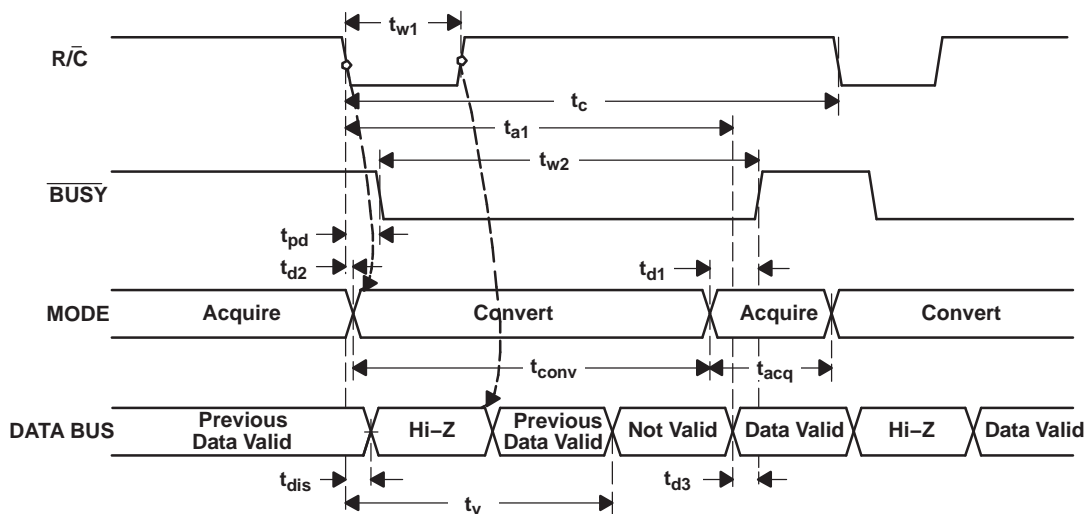
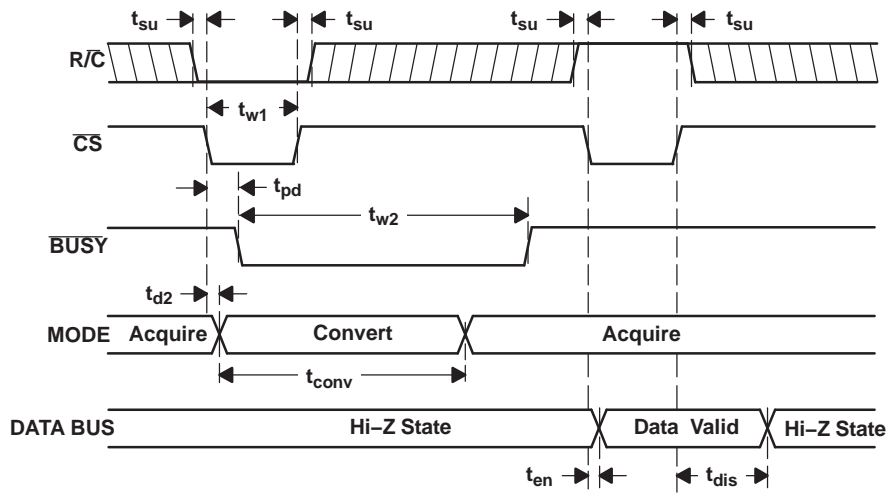
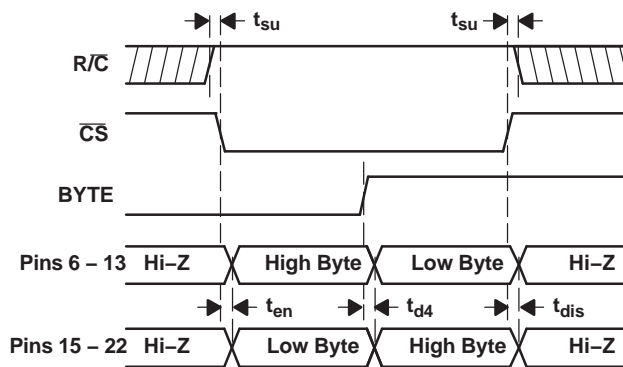

Figure 23. Conversion Timing with Outputs Enabled after Conversion (\overline{CS} Tied Low)
Figure 24. Using \overline{CS} to Control Conversion and Read Timing
Figure 25. Using \overline{CS} and \overline{BYTE} to Control Data Bus
The ADS8505 begins tracking the input signal at the end of the conversion. Allowing 4 μ s between convert commands assures accurate acquisition of a new signal. Refer to Table 1 for a summary of \overline{CS} , R/\overline{C} , and \overline{BUSY} states and Figure 23 through Figure 25 for the timing diagrams.
(1) See Figure 23 and Figure 24 for constraints on data valid from conversion $n-1$.
After conversion n is completed and the output registers have been updated, \overline{BUSY} (pin 26) goes high. Valid data from conversion n is available on D15-D0 (pins 6-13 and 15-22). \overline{BUSY} going high can be used to latch the data. Refer to Table 3, Figure 23, Figure 24, and Figure 25 for timing specifications.
After conversion n has been initiated, valid data from conversion $n-1$ can be read and is valid up to t_2 (2.2 μ s typ) after the start of conversion n . Do not attempt to read data from t_2 (2.2 μ s typ) after the start of conversion n until \overline{BUSY} (pin 26) goes high; this may result in reading invalid data. Refer to Table 3, Figure 23, Figure 24, and Figure 25 for timing specifications.
The number of control lines can be reduced by tying \overline{CS} low while using the falling edge of R/\overline{C} to initiate conversions and the rising edge of R/\overline{C} to activate the output mode of the converter. See Figure 23.